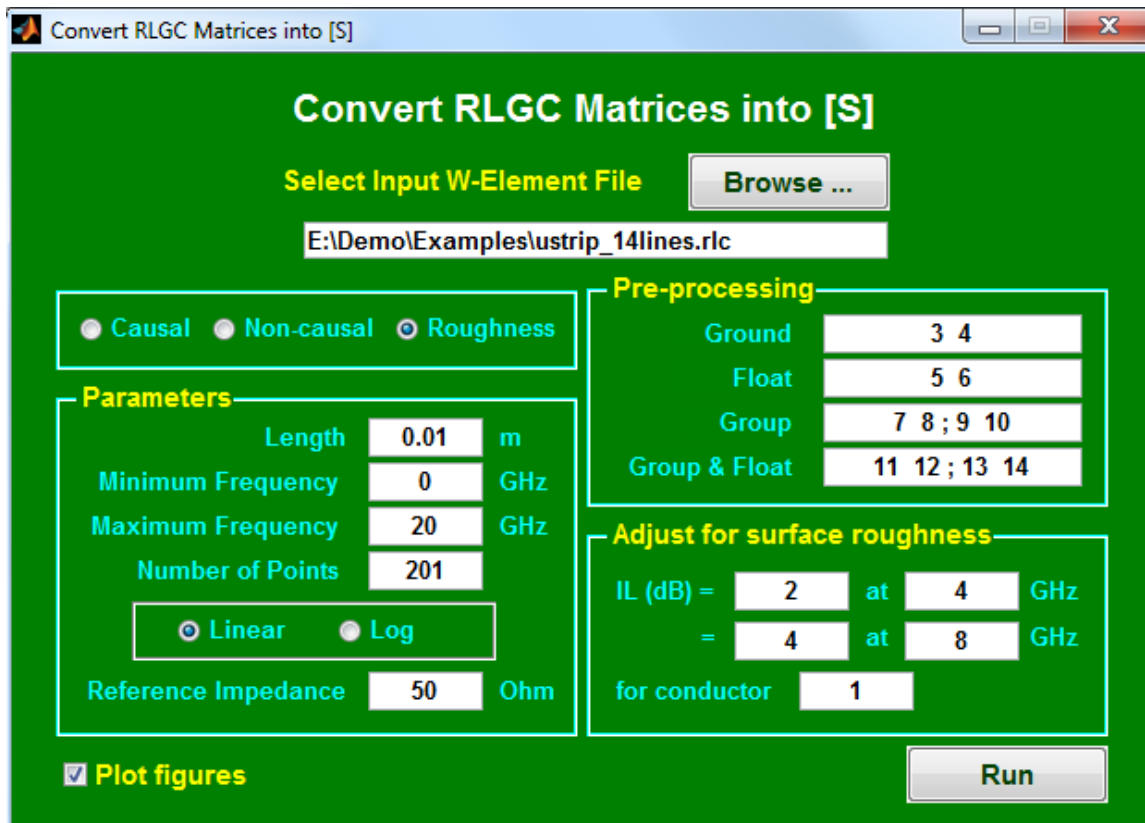

Figure 29
When the roughness model is selected, a new panel (Figure 29) is displayed, prompting the user to enter the desired insertion loss at two frequencies. The program will then (1) adjust Rs and Gd to fit the insertion loss and (2) adjust frequency-dependent Gd and C0 to fit a causal wideband model (ustrip_14lines.rlc_rough.tbl) and (3) create a Touchstone file (ustrip_14lines.rlc_rough.s8p). For reference, a simple non-causal W-element model (ustrip_14lines.rlc_rough.rlc) is also outputted.